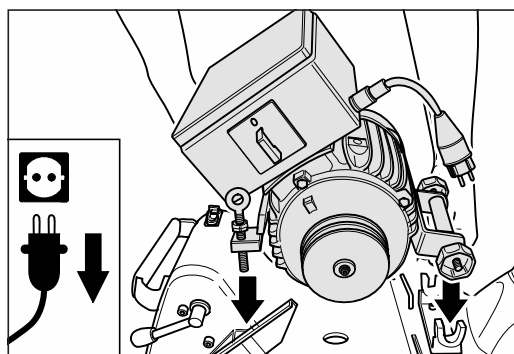

Fig. 38 Put the motor into the motor bearing bracket.
- 4 Place the motor in the motor bearing bracket (fig. 38).